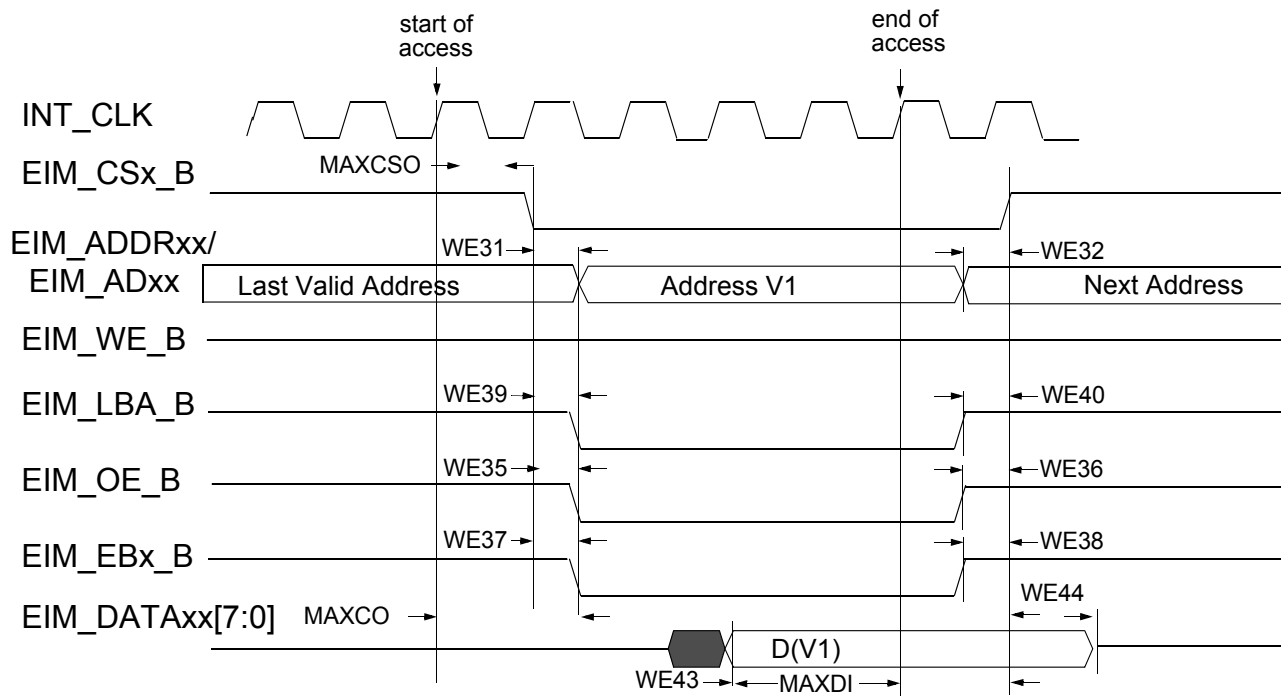
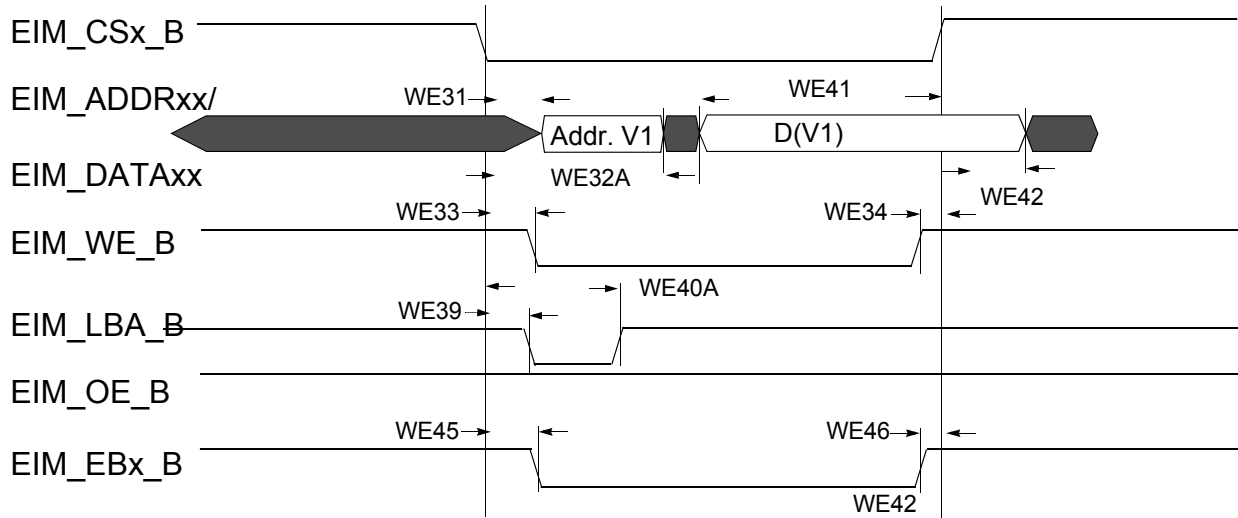
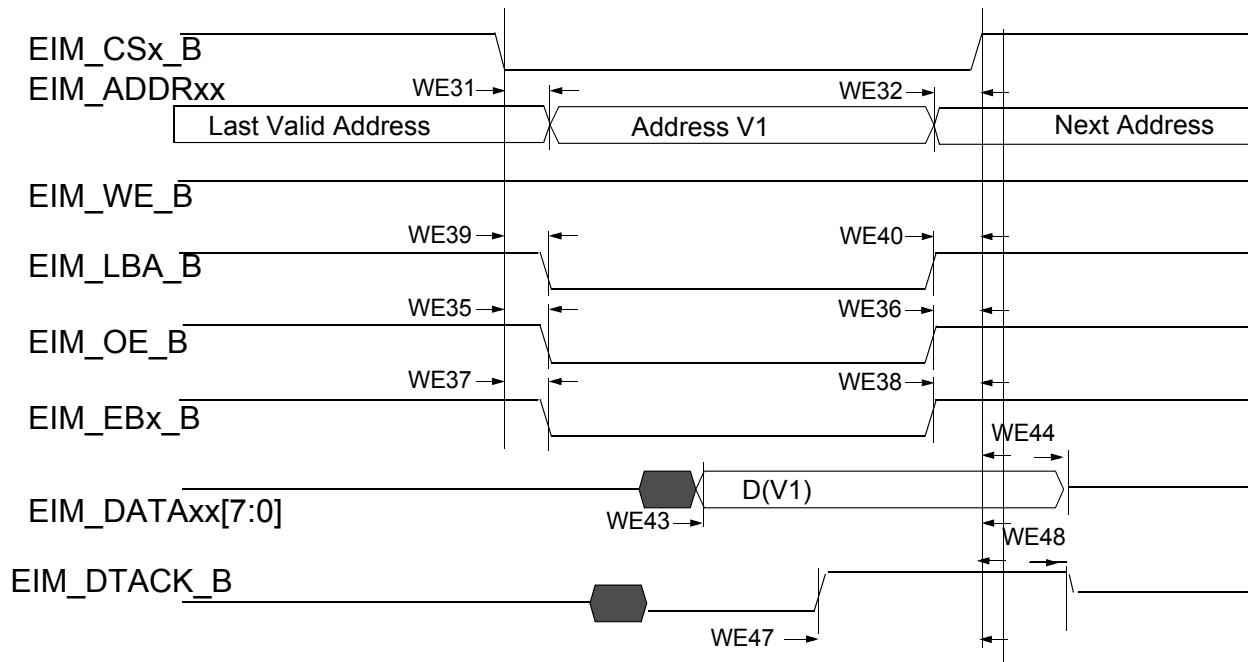

Figure 16. Asynchronous Memory Read Access (RWSC = 5)
Figure 19. Asynchronous A/D Muxed Write Access
Figure 20. DTACK Mode Read Access (DAP=0)
Figure 16 through Figure 20, and Table 45 help you determine timing parameters relative to the chip select (CS) state for asynchronous and DTACK EIM accesses with corresponding EIM bit fields and the timing parameters mentioned above.
Asynchronous read & write access length in cycles may vary from what is shown in Figure 16 through Figure 19 as RWSC, OEN and CSN is configured differently. See the *i.MX 6SoloX Applications Processor Reference Manual* (IMX6SXR) for the EIM programming model.